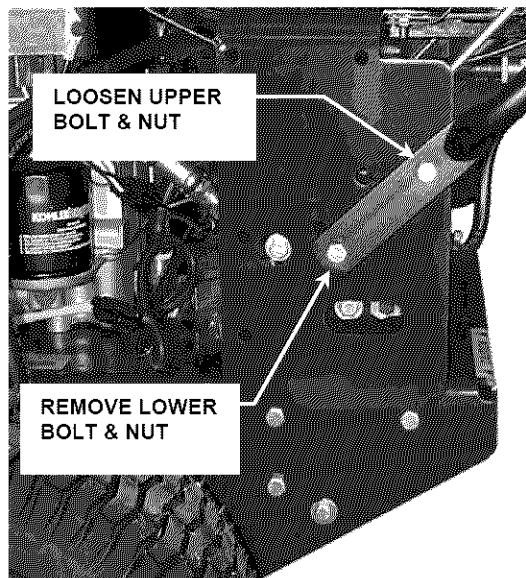

FIGURE 3.9
STEP 5: Loosen the upper bolt and nut on right and left side of Mower which holds Handlebar to Support Bracket. Remove the lower bolt and nut on each side. Retain this hardware. See Figure 3.9.